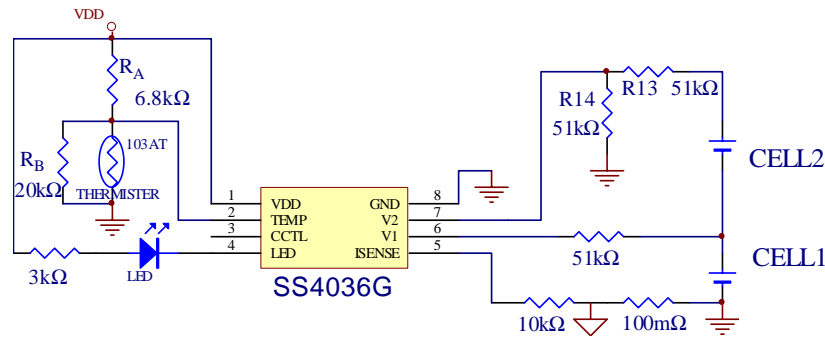

Figure 3. Cell voltage, current sense and temperature sensor
Figure 3 shows the cell voltage sense, current sense and temperature detecting circuit. The pack voltage is divided by 2 (by using two equal resistors, R13 and R14). This guarantees that the voltage on the V2 input pin (7) will not exceed VDD. The SS4036G monitors the charge current by measuring at the Isense input pin (5) the voltage drop across a sense resistor, connected between VSS (battery negative) and GND (Charger ground). The value of this resistor should be between 50mΩ and 150mΩ .